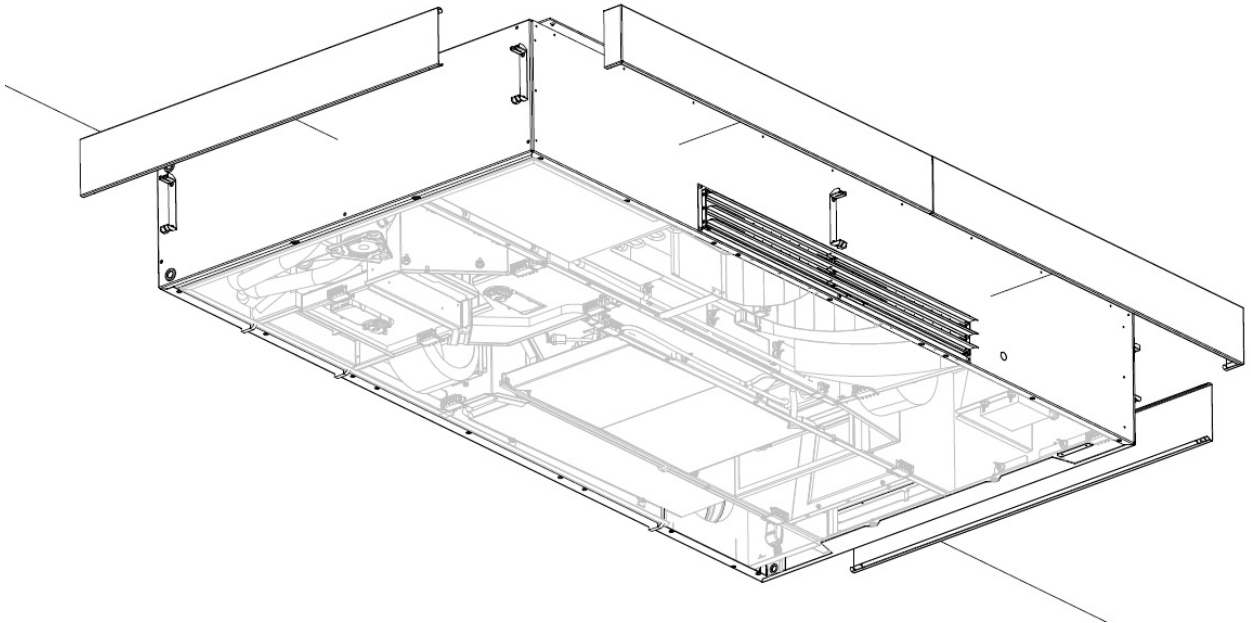
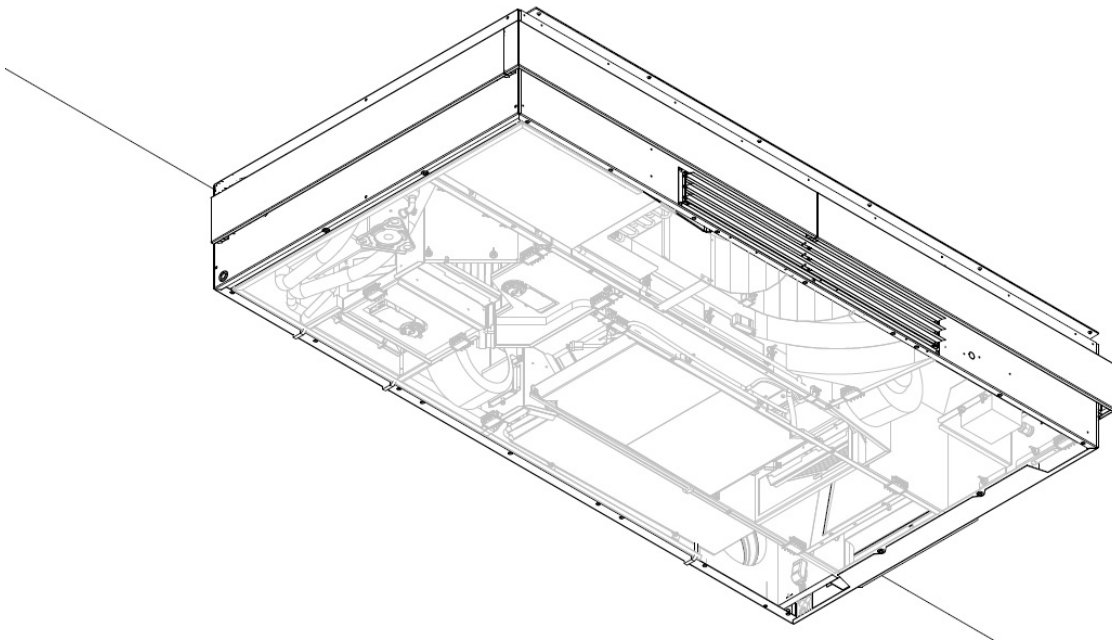

Figure 27: Click the panels onto the brackets
Figure 28: Panels fully mounted
1. Carefully take one panel at a time and click it onto the brackets. Take care not to scratch the panels. See Figure 27 and Figure 28 below.